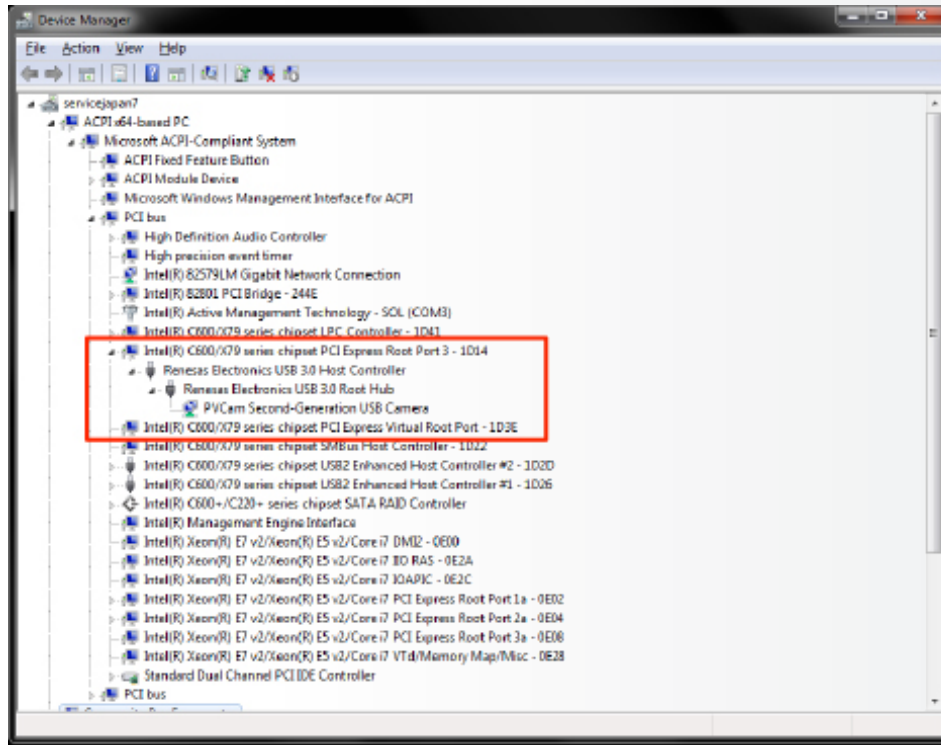

Figure 2. Photometrics USB3 camera is the only device on its USB Root Hub.
6 camera should be connected to a USB 3.0 port. It should also be the only device on its USB root hub controller (see Figure 2 below). Please see the following section on how to select the appropriate USB port for optimum camera performance. This ensures the maximum bus bandwidth is available to the camera for data transfers. USB 3.0 ports are often (but not always) identifiable by a blue internal socket or the “SuperSpeed” (or just “SS”) USB logo.
3. According to Figure 2, find the USB host controllers, expand them, and check whether your camera is the only device connected to the Root Hub.